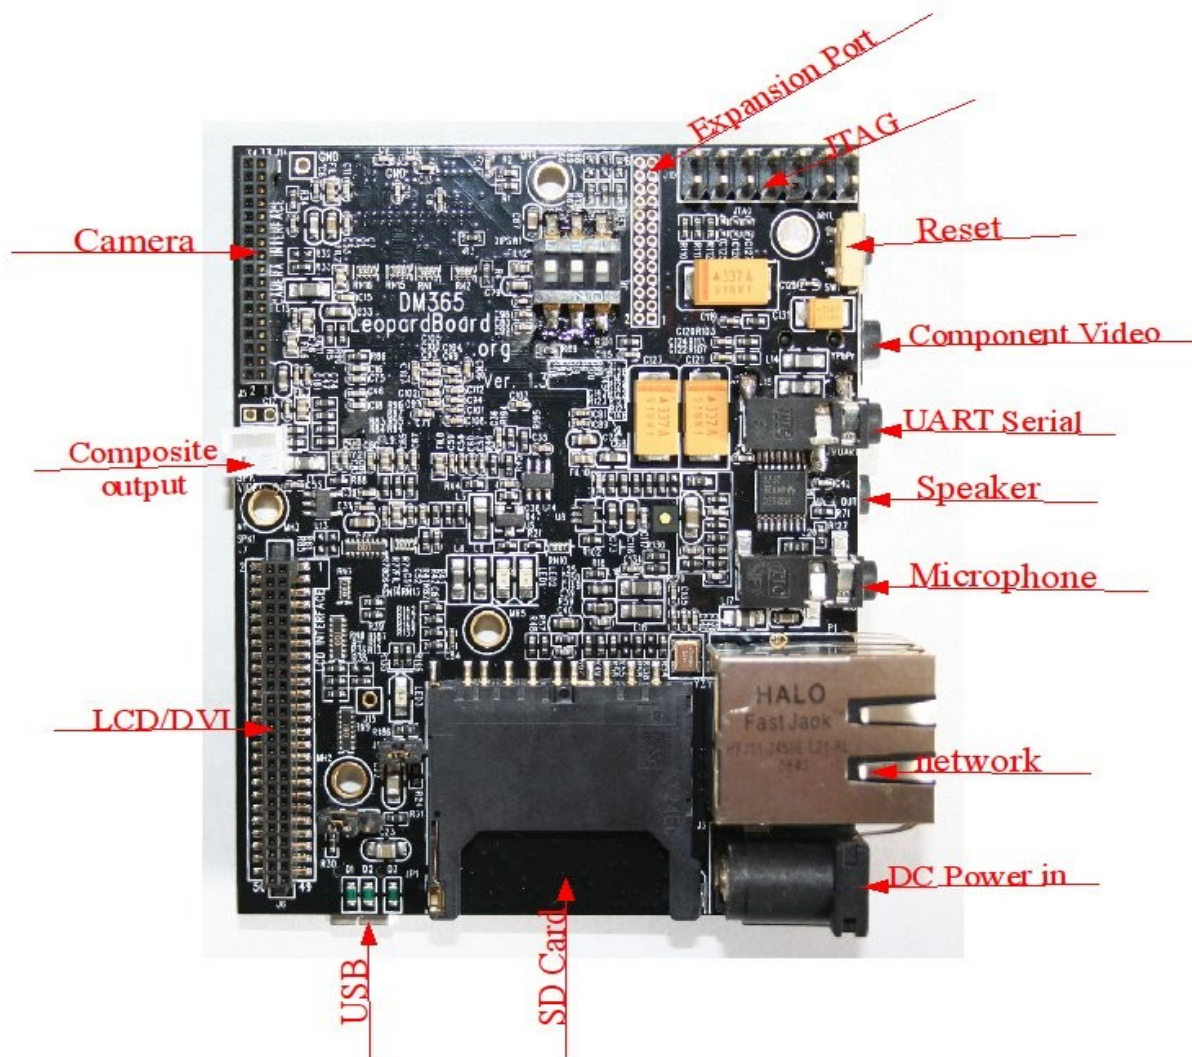

Figure 22. Leopardboard 365 Function Block
2.2 Leopardboard 365 Function Block, see Figure 22